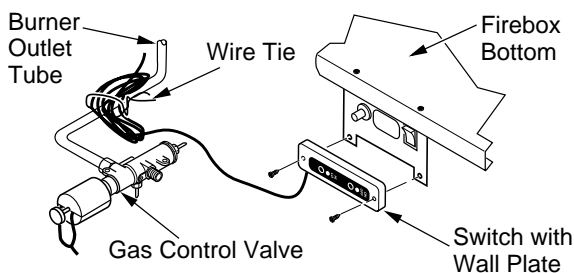

Figure 8 - Relocating Switch and Wall Plate
3. Remove wire tie holding coiled wire attached to wall switch (see Figure 8).